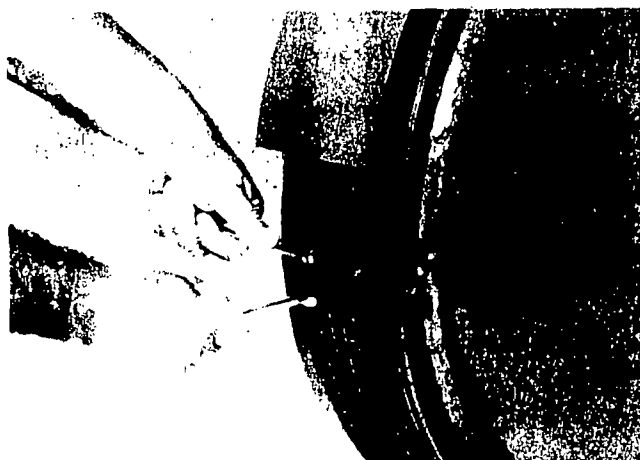

Figure 1. Removal of Screen Assembly
5. Remove bolts that retain the screen assembly to the SAE adapter. Then, remove the screen. See Figure 1.